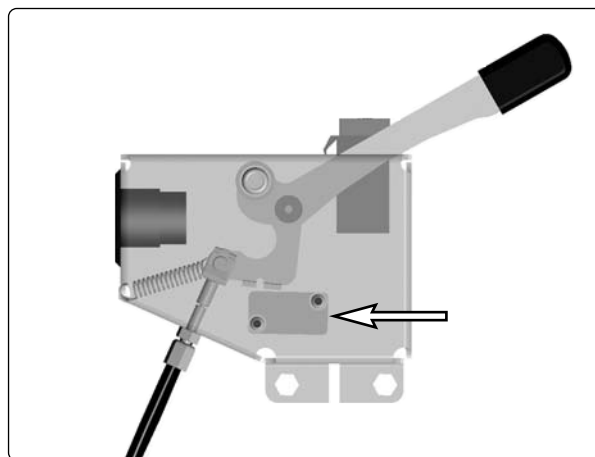

Fig. 34. Wheel lock release sensor.
2. Adjust the cable sleeve length with the adjusting screw (32.2) so that the cable is sufficiently tensioned so that the wheel lock release sensor (figure 34) is actuated just before the cable pulls the release.